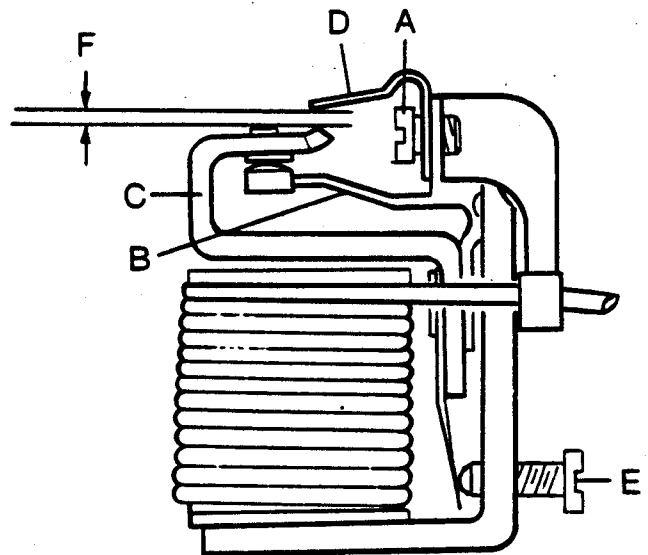

Figure H61
9. If the contacts open outside these limits, remove the cover. Bend the fixed contact blade B, Figure H61, page H41. Bend the blade towards the armature to decrease the voltage at which the contacts open. Bend the blade away from the armature to increase the voltage at which the contacts open.